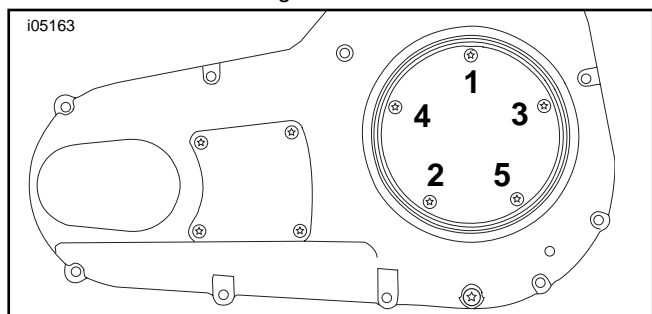

Figure 4. Torque Sequence, Primary Chaincase Cover
- Using a T27 TORX drive head, alternately tighten the screws to 84-108 **in-lbs** (10-12 Nm) in the sequence shown in Figure 4.